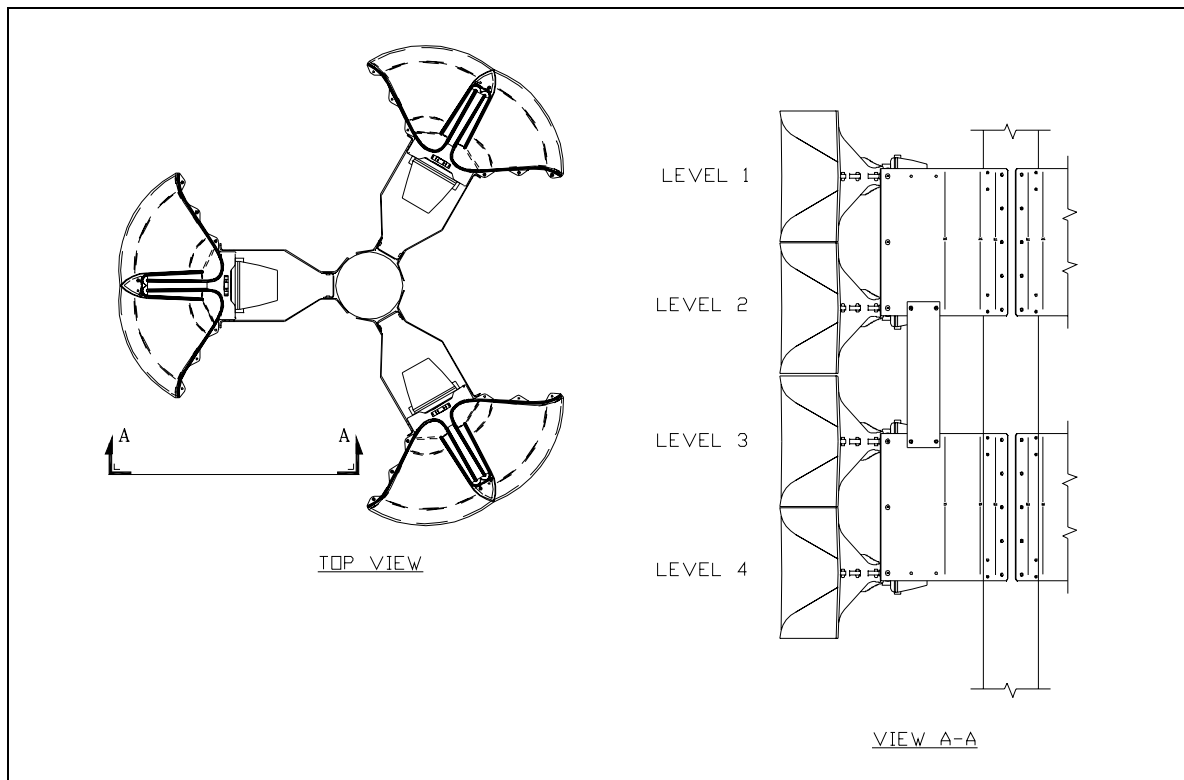

Figure 3. Arrangement 360-4.
3. **360-4:** This is a 360° arrangement where four levels of speakers are mounted in two 2-unit stacks. This configuration requires the use of six kits. See Figure 3.
- Mounting 12 horns at four levels around the perimeter of the pole for 360° of coverage requires six kits. (See Figure 3.)